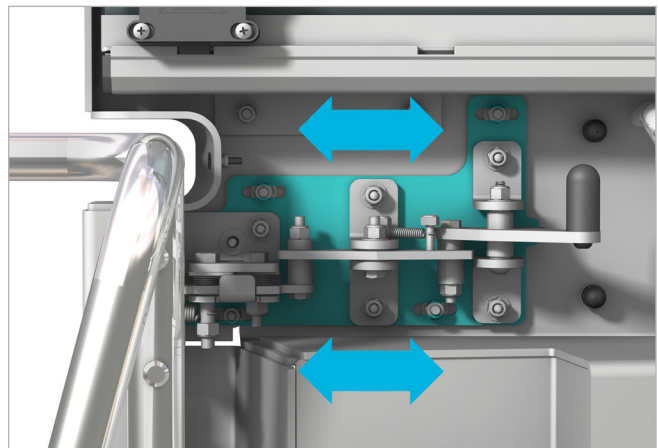

Figure 2 – Latch assembly base plate movement.
2. With the latch assembly loose, move the base plate in/out as shown in **Figure 2**. Position the striker bar in the center of the latch jaw, indicated by the red target as shown in **Figure 3**. Test the striker bar position by latching and unlatching the door to confirm adjustment location.